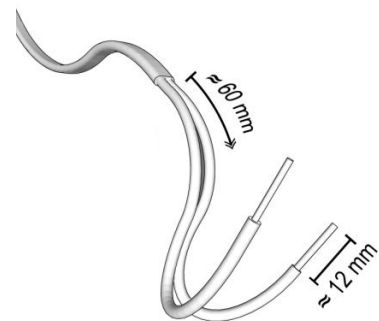

Fig. 02 Cable end at the node
7. Split or strip the end of the cable with a knife and strip the insulation from the wires by at least 12 mm. (Fig. 02)